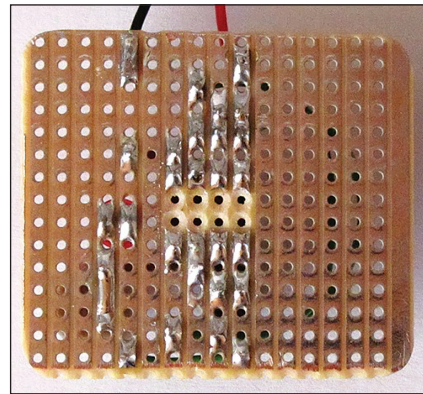

Figure 2
- (ii) Explain in detail why the surface of the stripboard has been removed in **Figure 2**. [4]